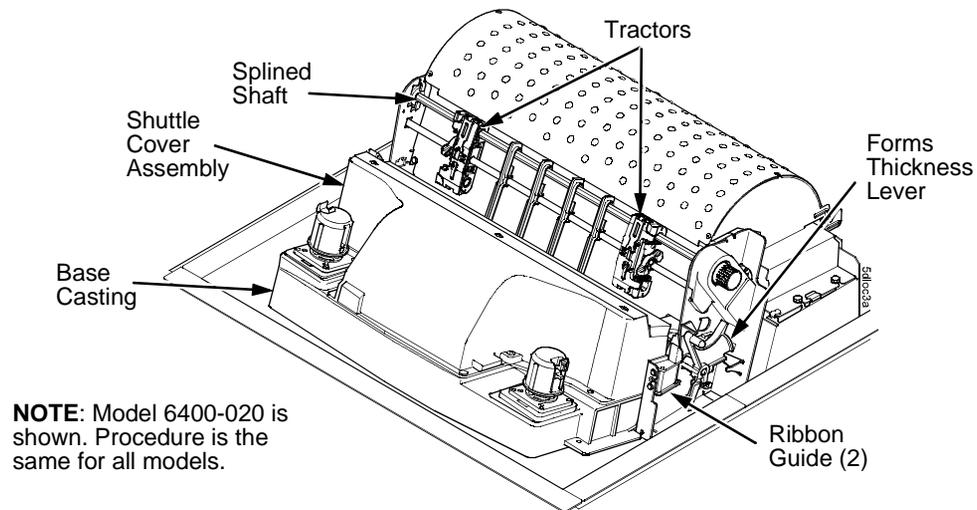

Figure 68. Cleaning Inside the Cabinet or Top Cover
6. Using a soft-bristled, non-metallic brush, wipe paper dust and ribbon lint off the tractors, shuttle cover assembly, base casting, and ribbon guides. Vacuum up the residue. (See Figure 68.)